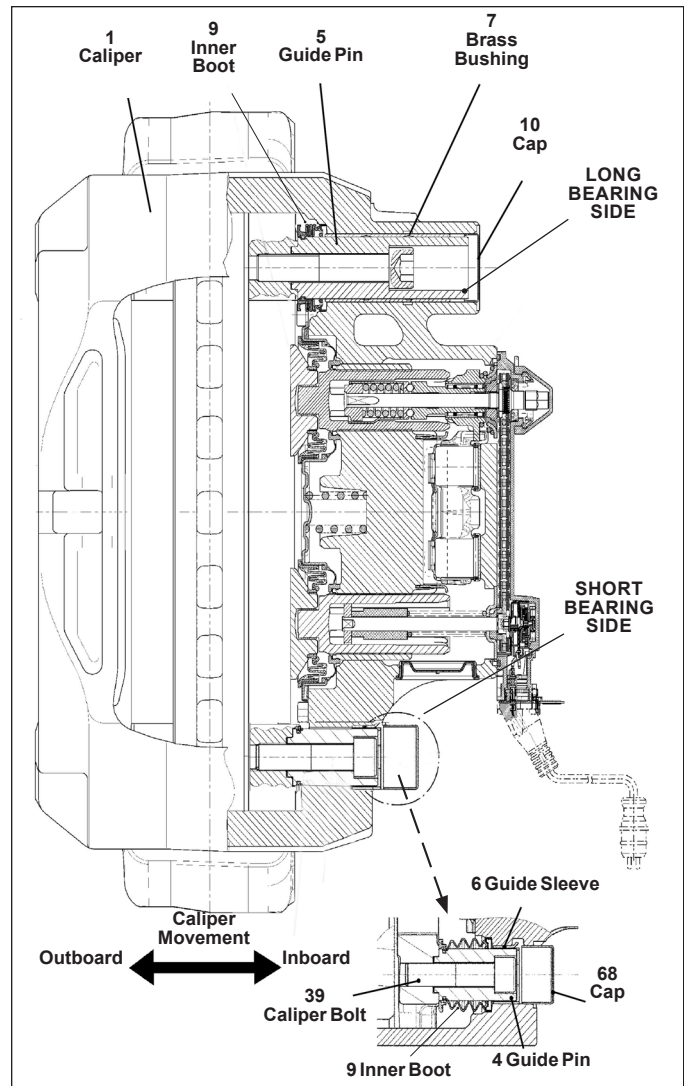
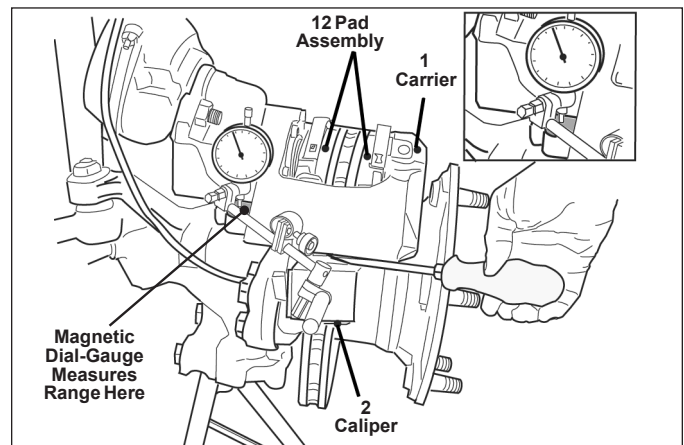

Figure 25 – Guide Pins
Figure 26 – Magnetic Dial-Gauge In Use
3.5.2 See Figures 25 and 26. With the wheel removed, remove the pad retainer (11). Temporarily replace the pads with two new pads (12). Attach a magnetic dial-gauge holder to the carrier (2) on the short bearing side of the caliper (1). Use the measuring point on the caliper (1) – see the callout in Figure 26. Press the caliper in the direction of the carrier (2) and set the dial-gauge to zero.
3.5.3 Place a suitable tool (e.g. a large flat-blade screwdriver) between the carrier (2) and the caliper (1) and use light hand force to move the caliper away from the carrier, until the movement stops. Read the maximum value on the dial-gauge. See Figure 26.